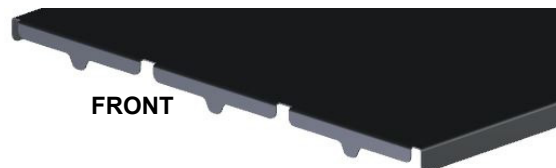

FIGURE 1: TOWER CAP FRONT - DETAIL
3. Locate the front of the Tower Cap. The front of the Cap has three tabs extending beyond the skirt line. See Figure 1.